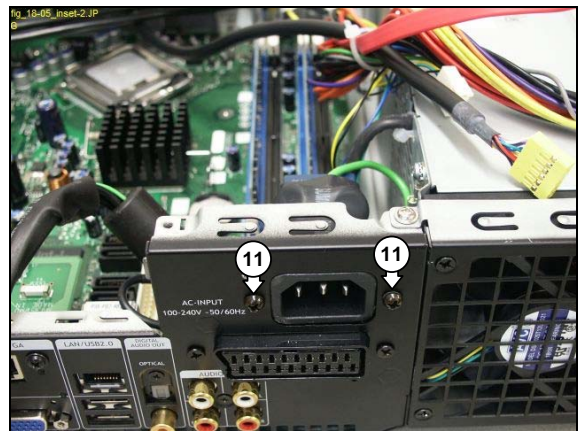

Figure 12.16-4
17. Remove the 2 mounting screws (11) from the AC input. See Figure 12.16-4.